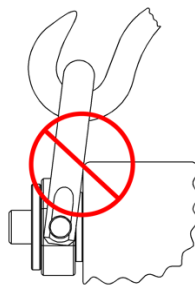

Fig 2
- Make sure the hoist ring bail/U-shaped ring or hardware attached to it does not come in contact with the workpiece or any obstacles during the lift. The bail/U-shaped ring must not bind on the edge of the workpiece. Use spreader beam to avoid binding (Fig.2).